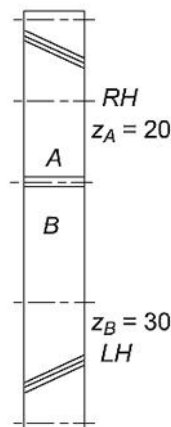

Figure 1
8. A pair of parallel helical gears is shown in Fig. 1. A 5-kW power at 720 rpm is supplied to the pinion A through its shaft. The normal module is 5 mm and the normal pressure angle is 20° . The pinion has right-hand teeth, while the gear has left-hand teeth. The helix angle is 30° . The pinion rotates in the clockwise direction when seen from the left side of the page. Determine the components of the tooth force and draw a free-body diagram showing the forces acting on the pinion and the gear.